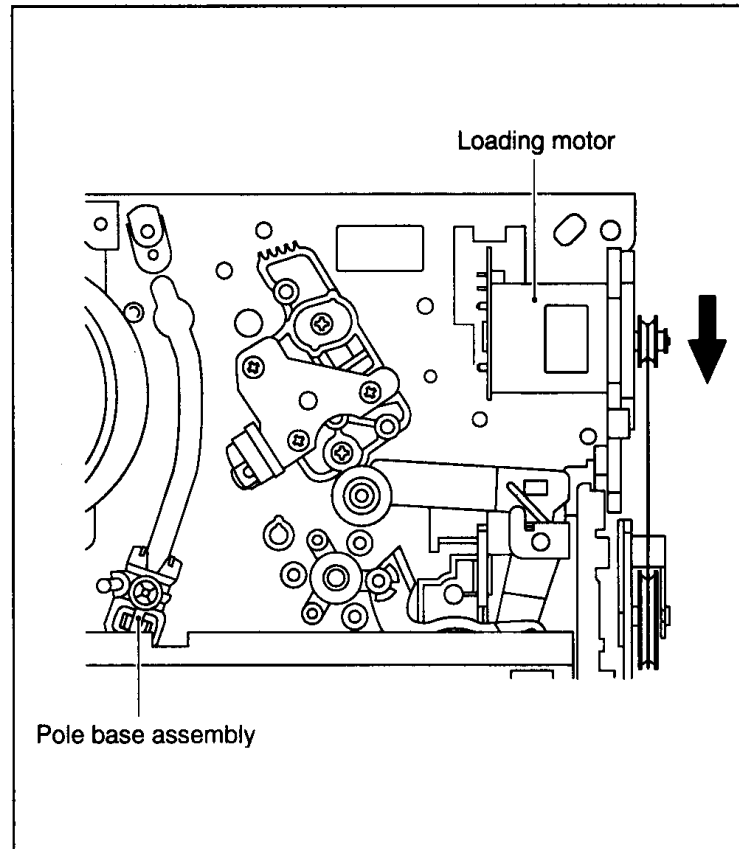
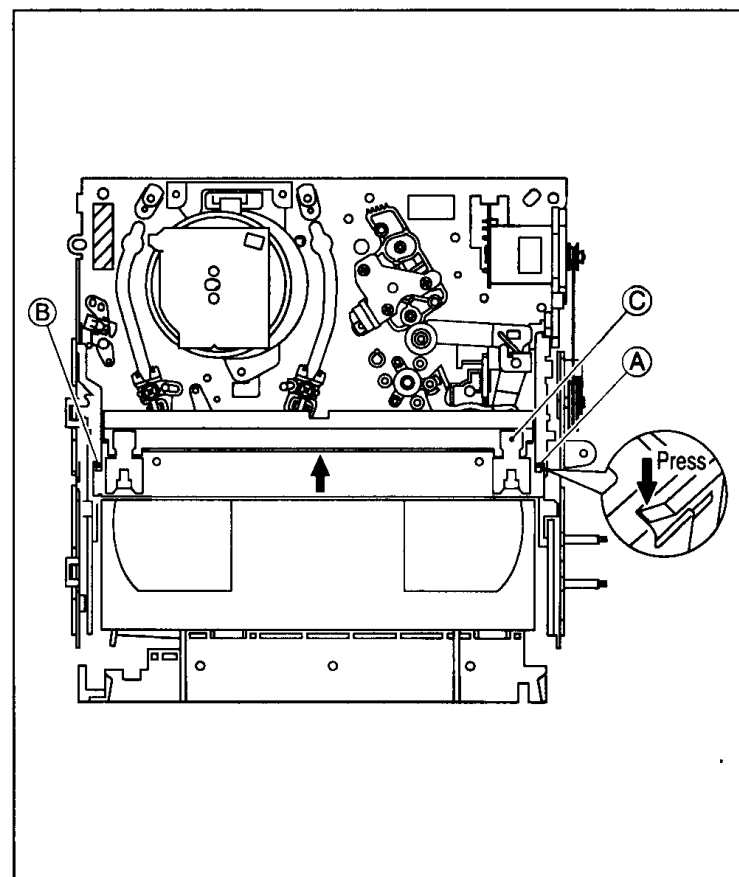

Fig. 2-1-1
Fig. 2-1-2
- (2) Unload the cassette by manually turning the unloading motor of the main deck assembly toward the front. In doing so, hold the tape by the hand to keep the slack away from any grease. (See Fig.2-1-1)
- (3) Bring the pole base assembly (on the supply or take-up side) to a pause when it reaches the position where it is hidden behind the cassette tape.
- (4) Move the top plate toward the drum while holding down the lug **A** of the bracket retaining the top plate. Likewise hold part **B** down and remove the top plate. The spring plate **C** is then brought under the cassette lid. Then remove the top plate by pressing the whole cassette tape down. (Note 1) (See Fig.2-1-2).
- (5) Remove the cassette tape by holding both the slackened tape and the cassette lid.
- (6) Take up the slack of the tape into the cassette. This completes removal of the cassette tape.